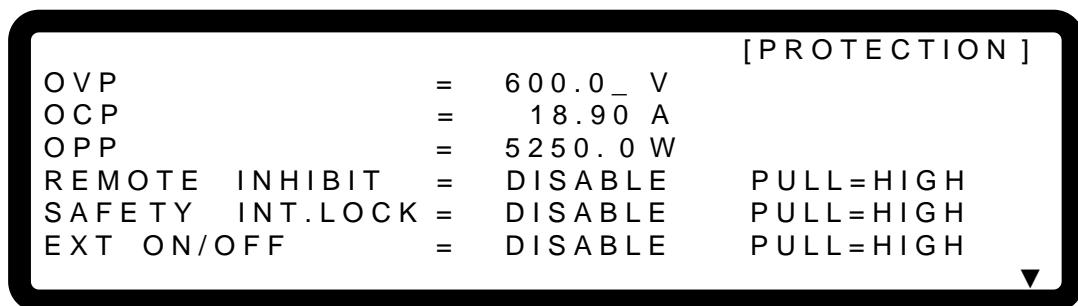

Figure 3-69
1. Use the “”, “” keys to move the cursor to the column to be set as shown in Figure 3-69.